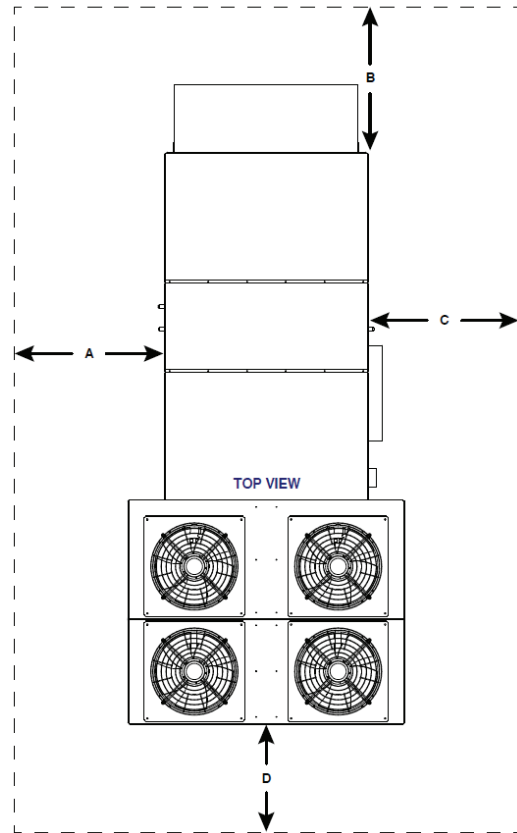

Fig. 2 — Required Clearances
- Do not locate adjacent unit condenser sections closer than 6 ft to one another to reduce the possibility of condenser air circulation. Follow the minimum required clearances listed in Service, Ventilation, and Required Clearance sections or in Fig. 2 and Table 3 (whichever is greater).